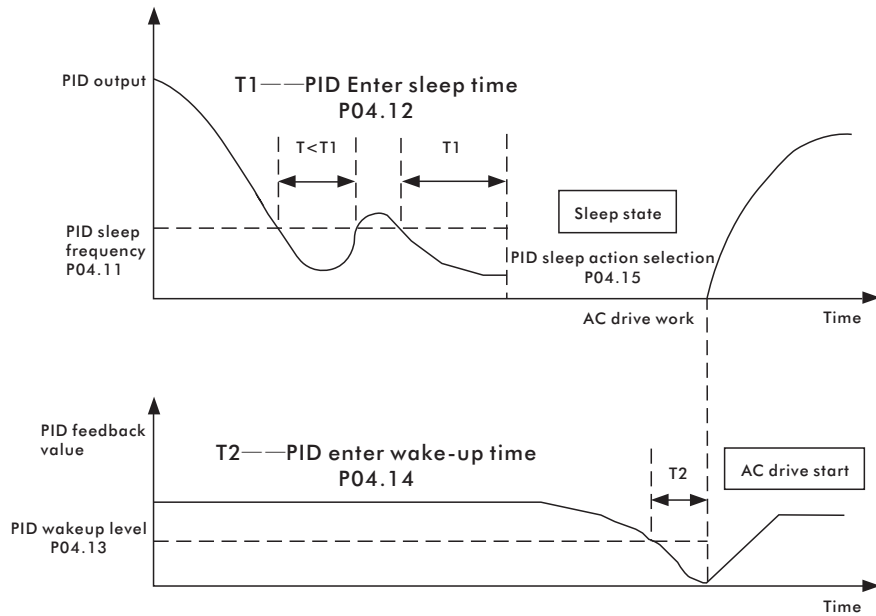

Figure 6-4-2 PID sleep wake up
- Principle explanation: As shown in Figure 6-4-2, the PID output value is less than the P04.11 sleep frequency. After the time set by the parameter P04.12 (PID enters sleep time), the PID enters sleep according to the sleep action; the PID wakeup value is greater than P04.13 wakeup Deviation (wake-up value = percentage of set value), after the time set by parameter P04.14 (PID enters wake-up time), PID restarts.